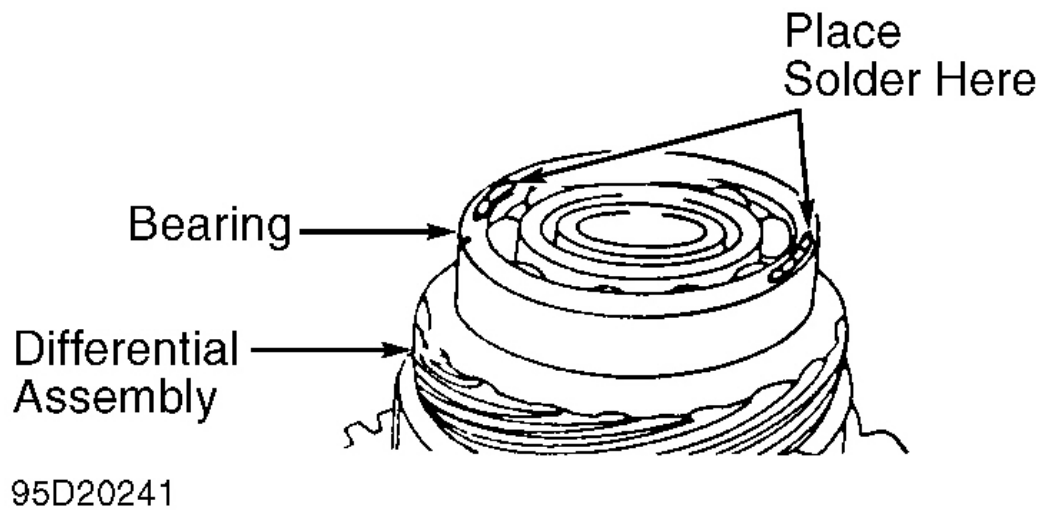
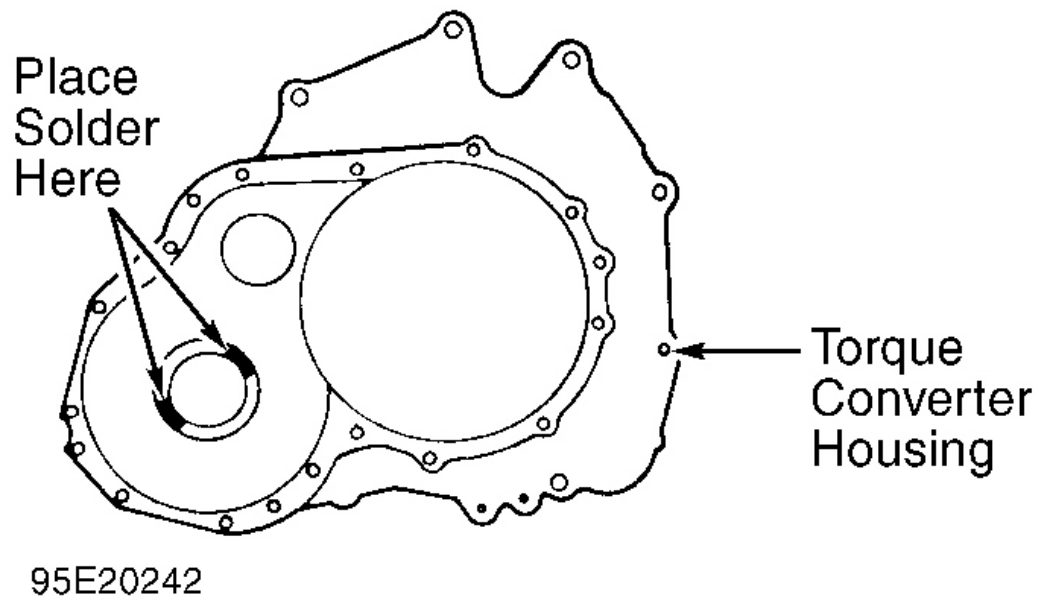

Fig. 43: Installing Solder For Checking Differential Bearing Preload
Fig. 44: Installing Solder For Checking Differential Bearing Preload
48. On KM175 and KM176 models, place 2 pieces of solder .39" (10.0 mm) long and .12" (3.0 mm) in diameter at 2 places on bearing on differential assembly. See **Fig. 43 -Fig. 44** .
49. On KM177 models, remove bearing race for differential assembly bearing and spacer from torque converter housing. Place 2 pieces of solder .39" (10.0 mm) long and .12" (3.0 mm) in diameter at 2 places on torque converter housing. See **Fig. 43 -Fig. 44** . Install bearing race in torque converter housing.